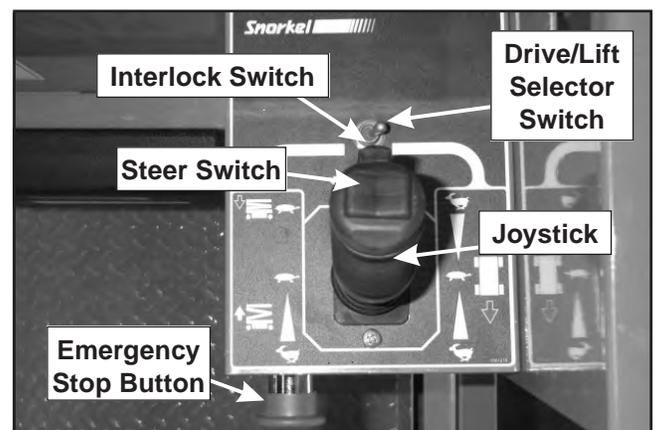

Figure 9.2—Upper Controls
The upper controls (refer to Figure 9.2) may be used for driving the aerial platform and positioning the platform while on the job.
1. Place the drive/lift selector switch (refer to Figure 9.2) in the drive position.
The steer control switch is located on the joystick (refer to Figure 9.2). Use the following procedure to steer the aerial platform using the upper controls.
1. Place the drive/lift selector switch (refer to Figure 9.2) in the lift position.